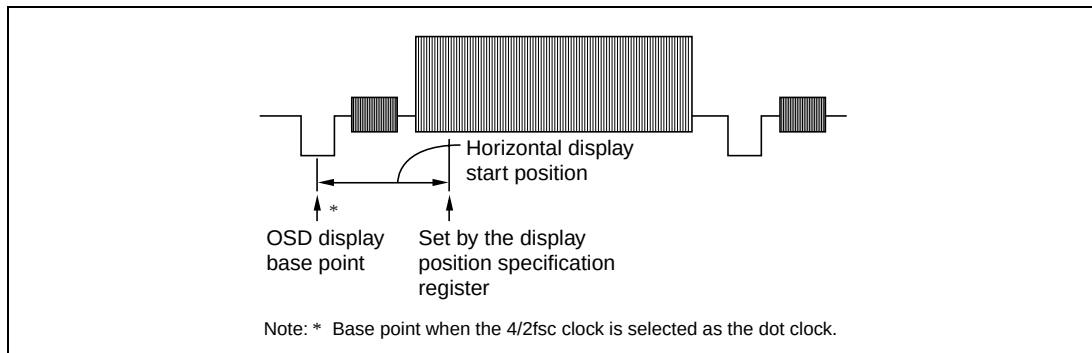

**Figure 29.11 Base Point for Horizontal Display Start Position**
The base point for the horizontal display start position is shown in figure 29.11.
**Bits 7 to 0—Horizontal Display Start Position Specification Bits (HP7 to HP0):** Set the display start position in the horizontal direction. Setting units are twice the dot clock cycle. Refer to the base point for the horizontal display start position in figure 29.11.